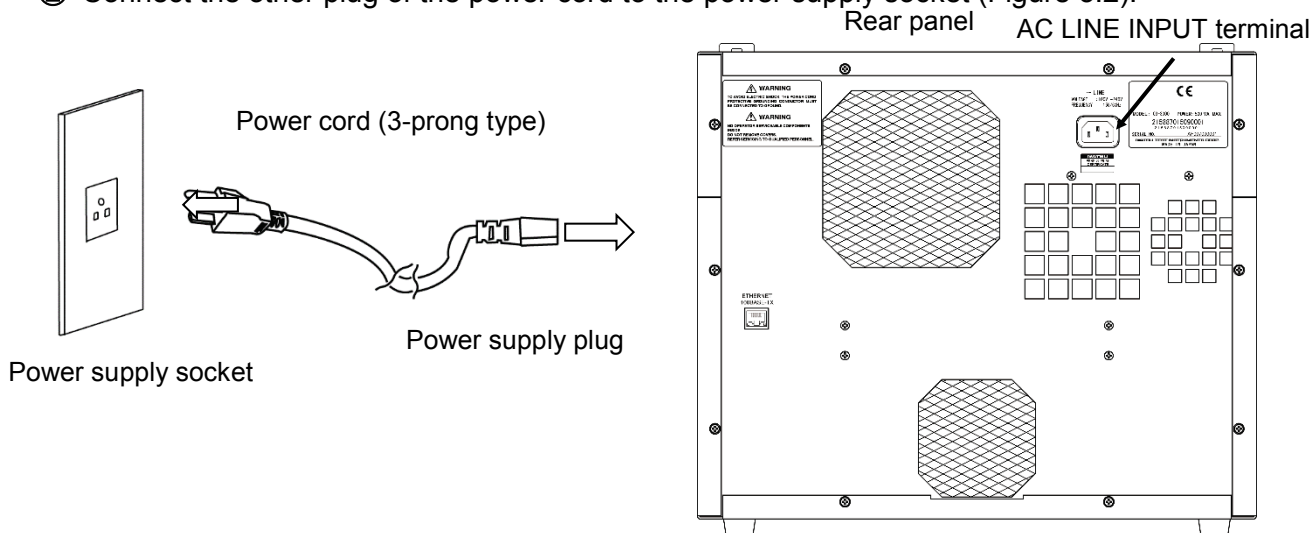

Figure 3.2 Connection of power cord (CS-3200/3300)
- ① Insert the plug of the attached power cord into AC LINE INPUT terminal for the power cord connection on the rear panel (Figure 3.2).
- ② Connect the other plug of the power cord to the power supply socket (Figure 3.2).